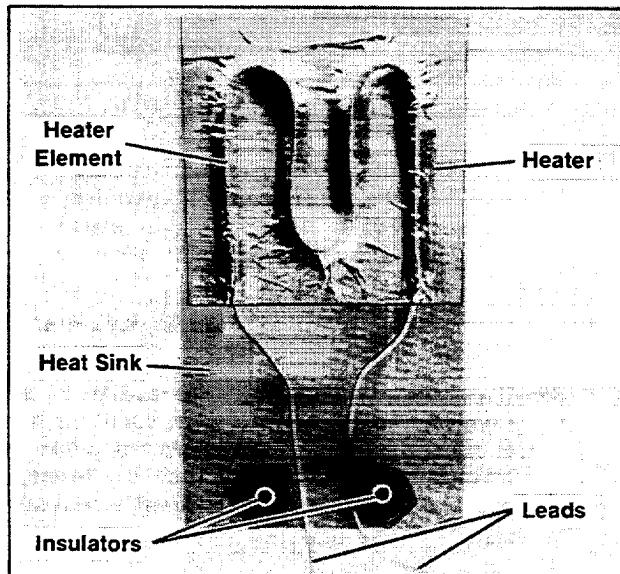

Figure 1. Heater Assembly
2. Before attaching heater to heat sink, check to be sure heat sink is clean and dry. Attach heater along end of heat sink farthest from holes and with leads facing holes. See Figure 1.